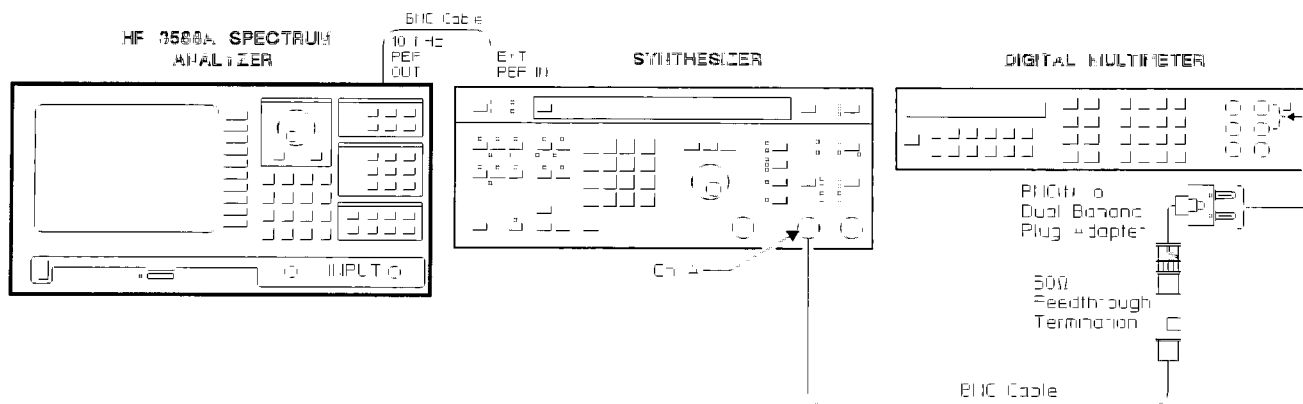

Figure 3-13. Reference Level Accuracy Setup
1. Connect the test equipment as shown in figure 3-13.